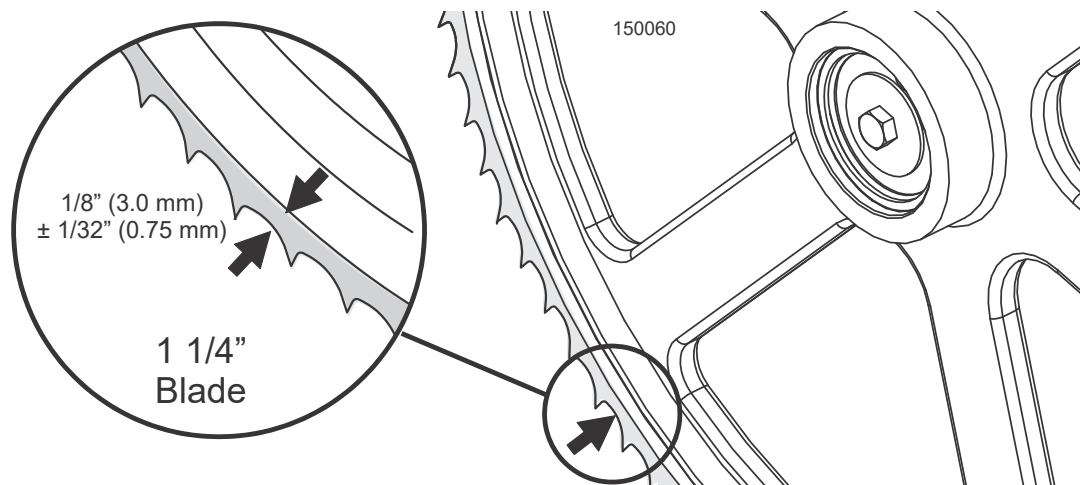

FIG. 7-12
See Figure 7-12.
8. If necessary, adjust the drive-side blade wheel to position the blade as shown in Figure 7-12.